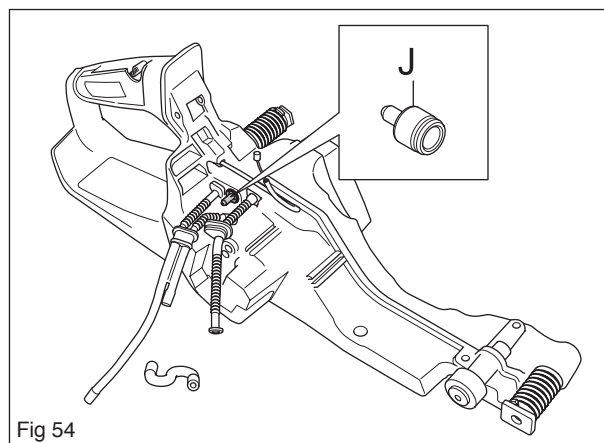

Fig 54
2. Loosen the positive pressure hose as outlined in figure 54. Connect the pump, ref. no. 531 03 06-23, to the tank valve J.